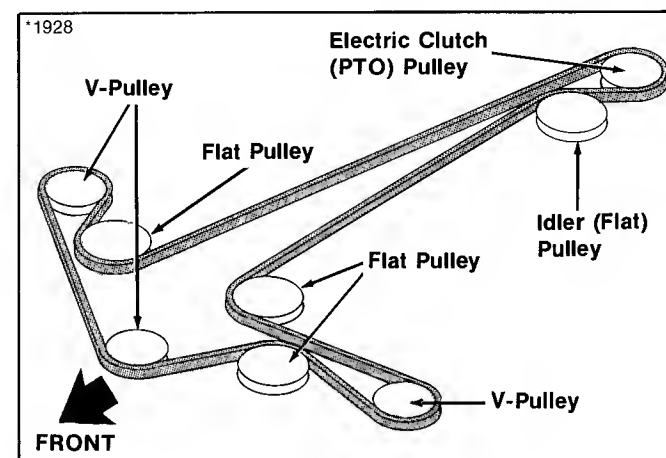

Figure 28. Mower Belt Routing
9. Check mower belt routing carefully. Belt should be positioned as shown in figure 28.